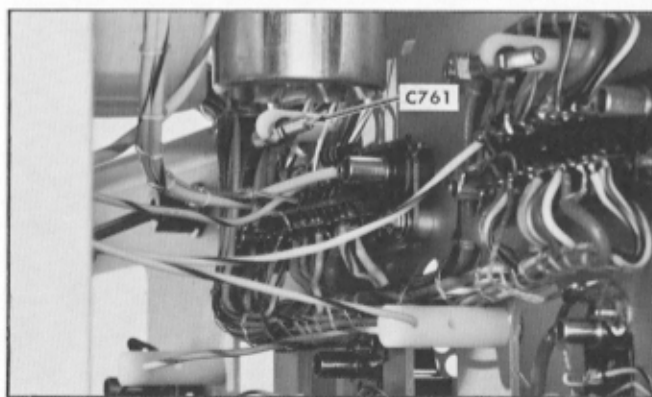
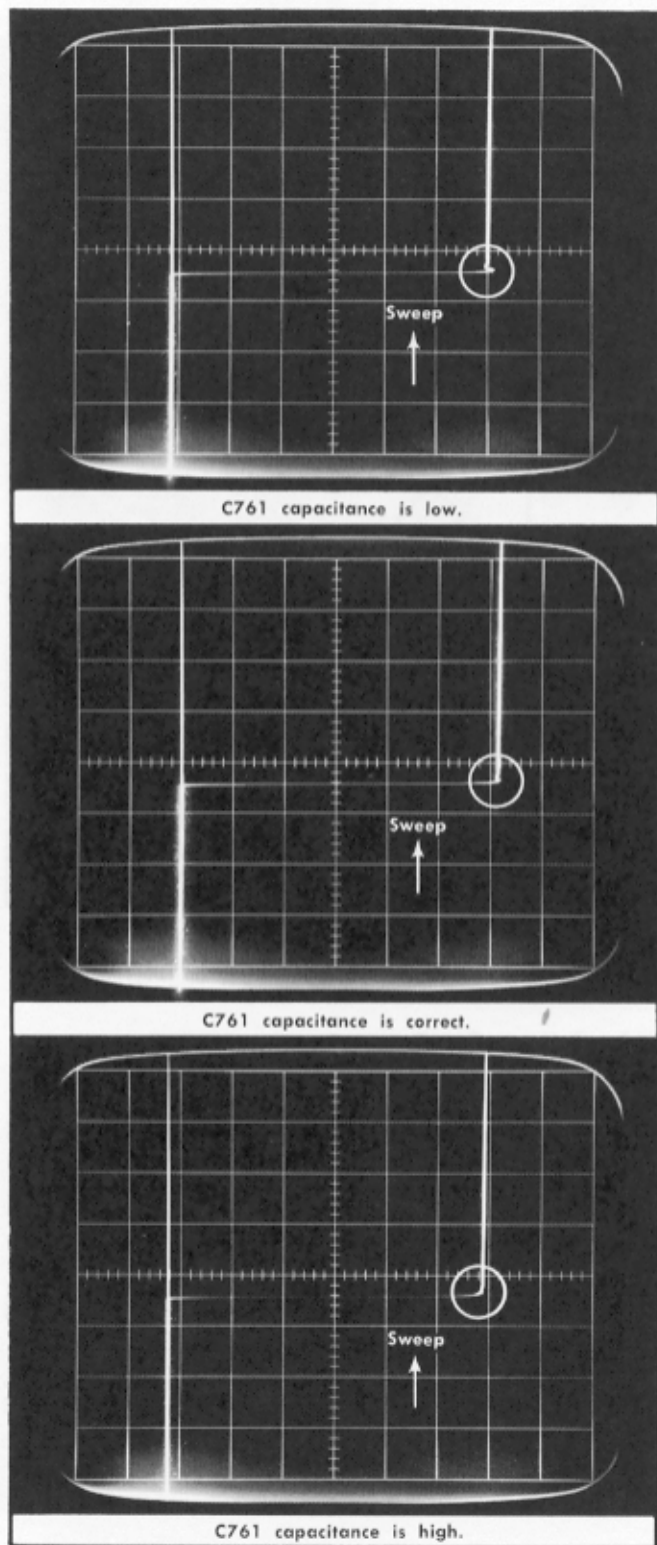

Fig. 5-24. Location of C761, step 10b.
Fig. 5-25. Waveforms for step 10b.
Use the low-capacitance tool (item 16) to adjust C761 for best flat-topped square-wave display. (C761 location is shown in Fig. 5-24.) Proper compensation is shown in Fig. 5-25. It may be necessary to position the leads to the deflection plates to aid in obtaining a good square-wave display. (C761 does not have an alternate location as does C760.)